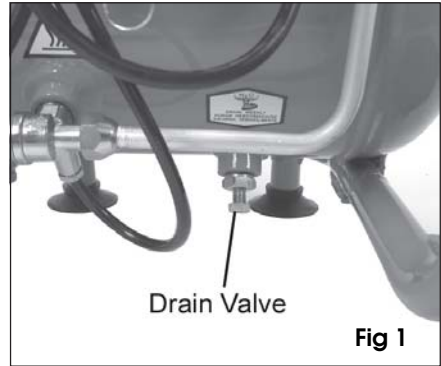

Fig 1
- If the compressor has not been used recently, open the drain valve shown in Fig 1 to drain any condensate which may have accumulated. When clear, close the valve, finger tight.
Before transporting or storing the compressor, always release the air pressure from the reservoir by opening the drain valve shown in Fig 1.